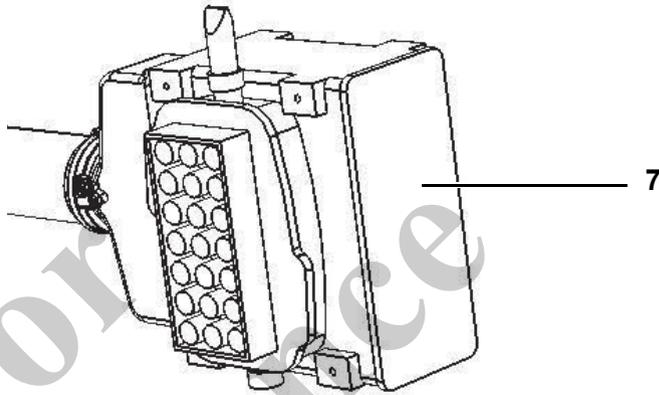

Fig. 201 Cleaning the air filter pre-separator
3	Open the locking clamps of the pre-separator cover (7) in Fig. 201.
2	Place a suitable collecting vessel under the drain valve (3) in Fig. 201.